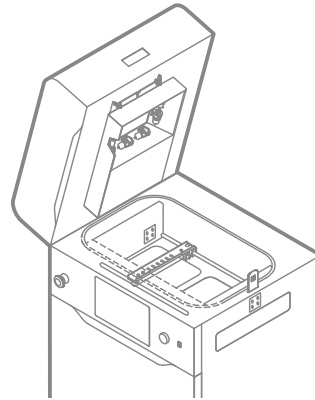

Fig. 13.21 Undo the screw of the Recoater cord.
20. Using a 2 [mm] allen key, undo the screws on the Recoater cord mounting plate on the left and right side (fig. 13.21).